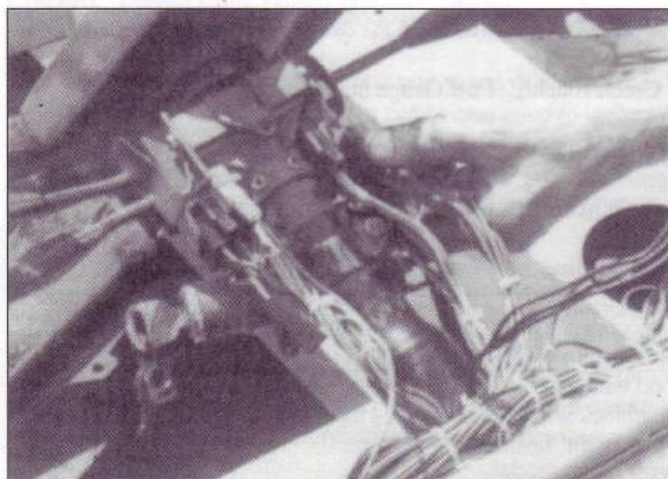

Fig.6a. Loom plugged into the column switches.
1. Drape the cockpit portion of the loom over the steering column, such that the two spurs holding the special black Ford multi-plugs straddle the steering column. These multi-plugs are plugged into the rear of the switches as shown in fig.6a.